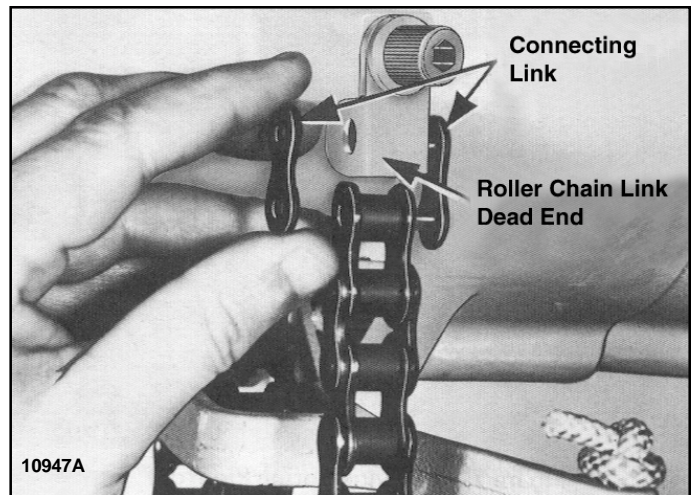

Figure 7-1. Removing Connecting Link at Tail End of Load Chain (Roller Chain Models).
(3) **Roller Type Load Chain.** Visually check for possible twists, broken links, wear or elongation. Check roller chains for elongation from wear by pulling chain taut and measuring as follows: On RC-625 or H-5 size chain (5/8" pitch), measure distance over a length of 20 pitches (center-to-center distance between 21 rivets) - it must not exceed 12-3/4 inches. If chain exceeds this limit, replace damaged section or install new load chain assembly. Check chain for twist. If twist in any 5' extension exceeds 15° replace chain. Check chain for camber. If any section has side bow exceeding 1/4" in five feet, replace chain. Use only factory approved chain. If chain is to be spliced to replace damaged section, it is recommended that this be done by a recognized **BUDGIT** Repair Station, since splicing link must have a spun head requiring special tools. Spring link must not be used except to secure the tail chain to the hoist frame. (See Figure 7-1.)
(1) On models with single reeved load chains (1/4, 3/8 and 1/2 ton), disconnect end of load chain from tail end anchor boss at side of hoist frame. Remove chain anchor by prying off spring clip and remove connecting link, attaching chain to anchor boss on roller chain models (Figure 7-1). Remove socket head cap screw, holding end link to tail end anchor on coil chain models. If hoist is connected to air service, run chain out of hoist by operating control in "lowering" direction. If hoist is not connected to air service, the chain can be pulled out of hoist by hand while holding brake open by pulling down on control lever.